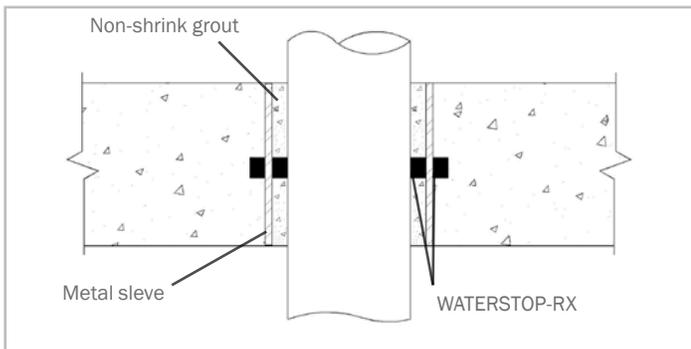
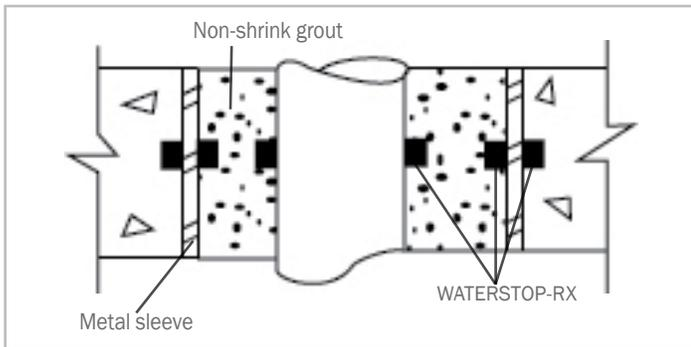

Figure 4.4 - Sleeved Pipe
Figure 4.5 - Sleeved pipe (excessive gap)
**Sleeved Pipe Penetrations:** Install WATERSTOP-RX around the outer diameter of the sleeve. Install another WATERSTOP-RX strip between the sleeve's inner diameter and the pipe, contacting both surfaces continuously (see Figure 4.4). When there is an excessive gap between the inner diameter of the sleeve and the pipe, it may be necessary to install two separate Waterstop- RX strips - one on the inner diameter and the other on the pipe. Then completely fill the void area between the sleeve and the pipe with non-shrink grout (see Figure 4.5).